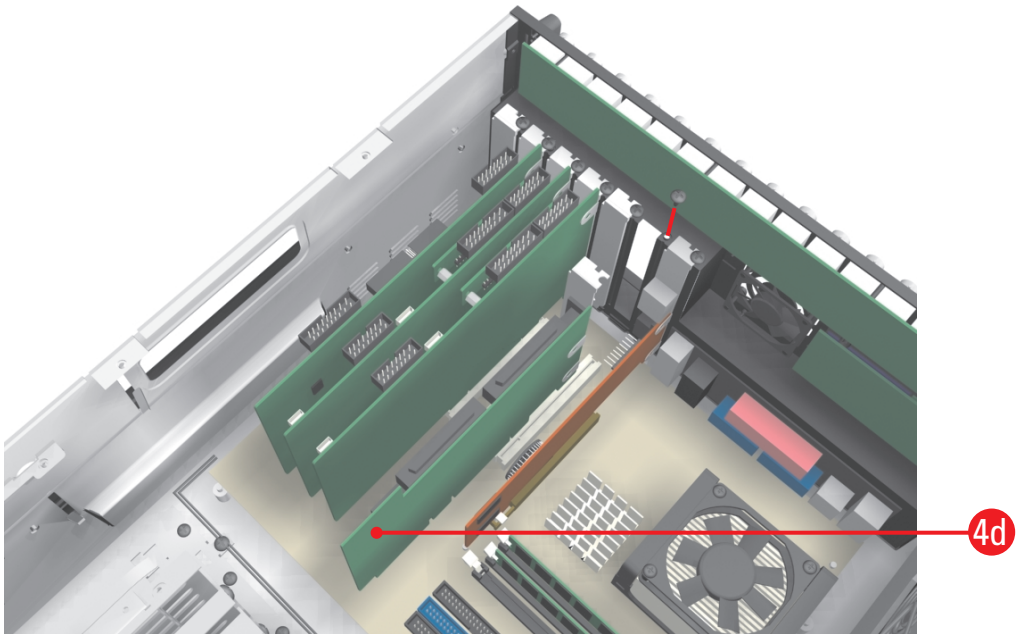

Figure 11. Inserting the DX8000-ISCi Card into PCI Slot 1
- b. Insert the DX8000-ISCi card in the PCI slot. Refer to Figure 11.